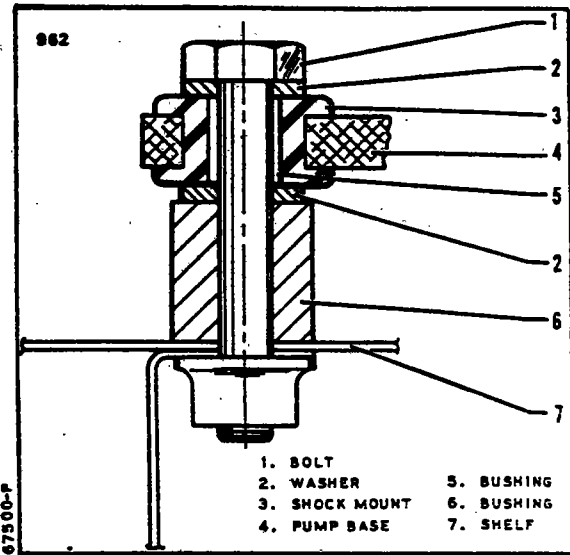

Figure 6-5. Pump Shock Mounts
b. Position the pump on its mounting flange. Install mounting bolt with washer and tighten. (Refer to Figure 6-5.)